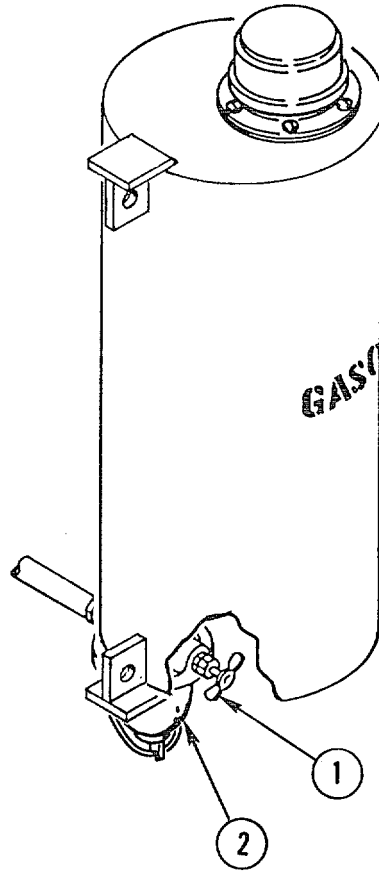

Figure 2-4. Fuel Strainer Petcock
- a. Perform all before (B) PMCS from table 2-4 to ensure all fluid levels are up and equipment is in ready status before operation of PDU. Performing all (B) PMCS represents pre-start instructions.
- c. Open petcock (1, figure 2-4) on fuel strainer (2).